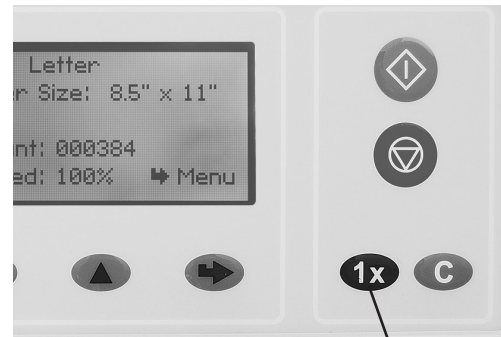

Fig. 10 Test Button
10. Press the "1x" button on the control panel to test and check the folds (Fig 10).